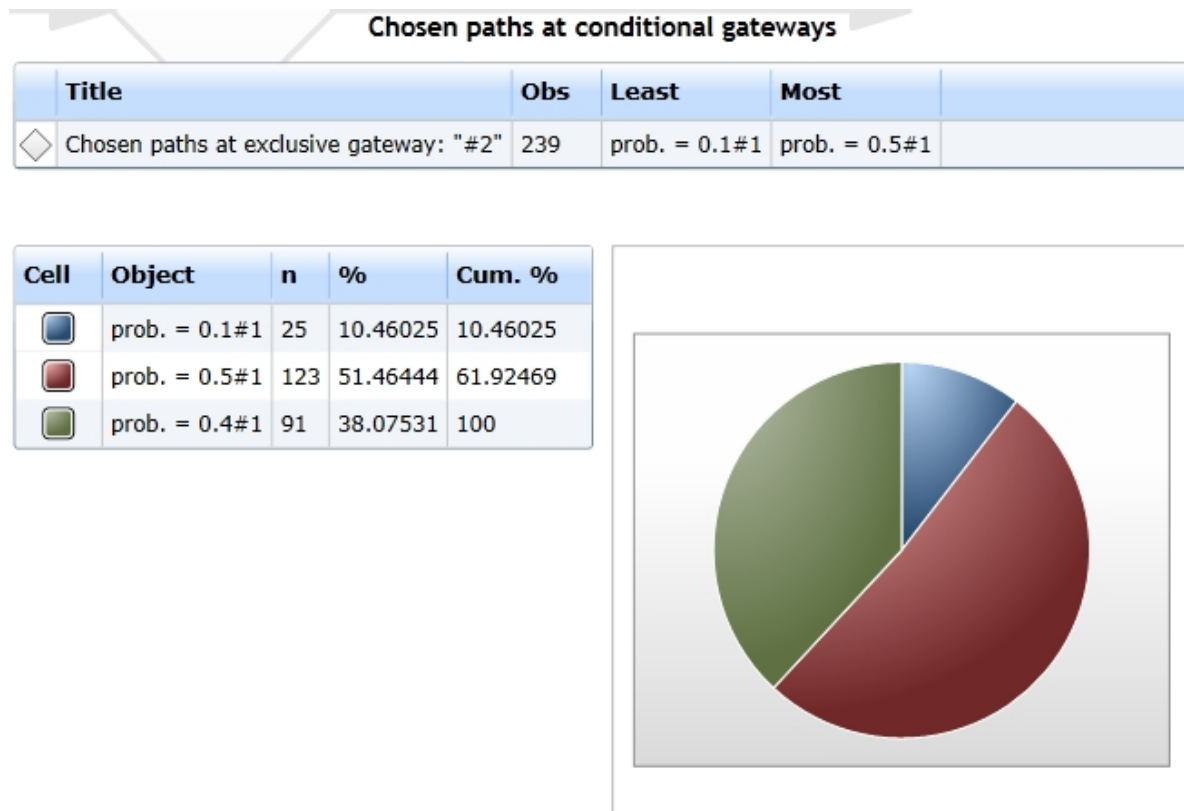

Figure 1: The report's gateway details
- Have a look at this report's gateway details (see Figure 1)